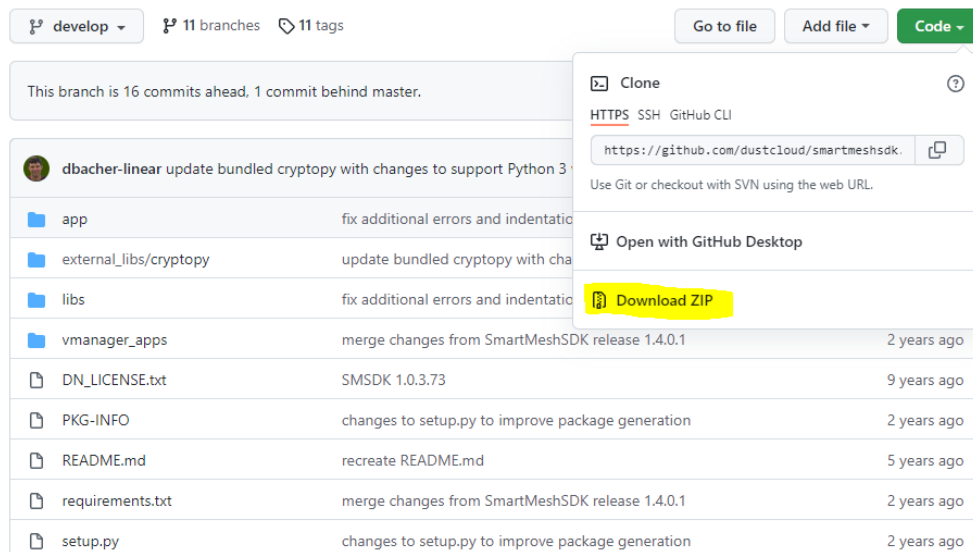

Figure 3: SmartMesh SDK GitHub download
- Download SmartMesh SDK from <https://github.com/dustcloud/smartmeshsdk/tree/develop> (Figure 3)